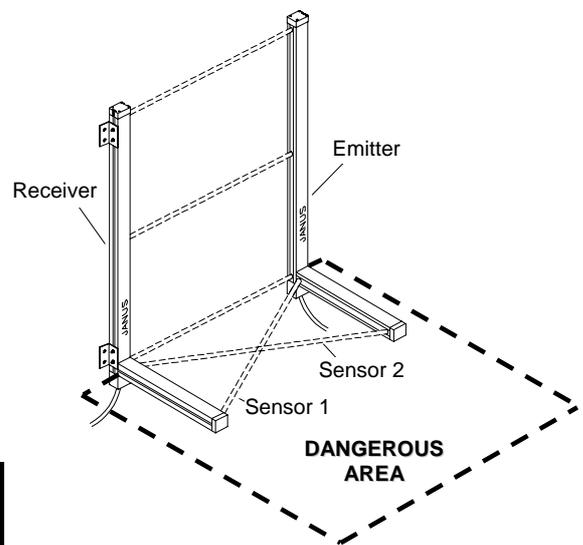

Figure 7
In this model, the sensors 1 and 2 are on the same side of the vertical light curtain and are placed in front of the guarded opening (Figure 7).
-  **To guarantee the safety operation of the MXL L series, the horizontal muting sensor must be mounted *INSIDE* the dangerous area (dashed on Figure 7).**